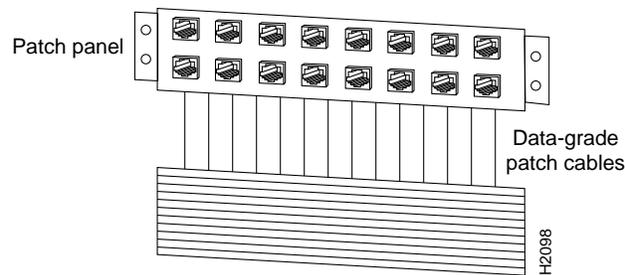

Figure 4-9 Cabling from Patch Panel to Punch-Down Block
**Step 2** Connect the patch panel to the punch-down block. (See Figure 4-9.)